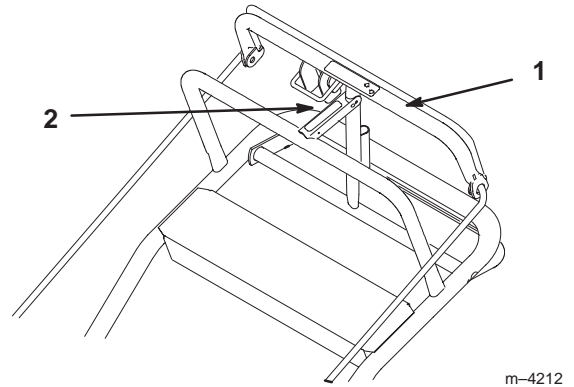

Figure 15
1. Pull the upper control bar rearward and hold it in this position (Fig. 15).
2. Lift the parking brake lock up and gradually release the upper control bar (Fig. 15). The brake lock should stay in the set (locked) position.
1. Pull rearward on the upper control bar (Fig. 15). Lower the parking brake lock to the released position.